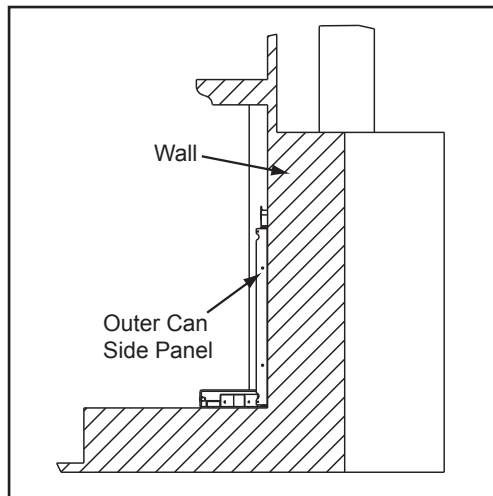

Figure 20.2
1. Align the back of surface of outer can side panels to the front wall surface for proper placement. **Figure 20.2.**